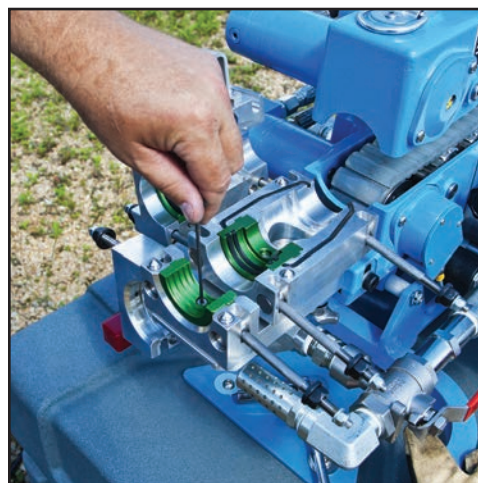

Figure 23. Install Conduit Clamp
4. Choose the correct Conduit Clamp and install both halves (Figure 23).